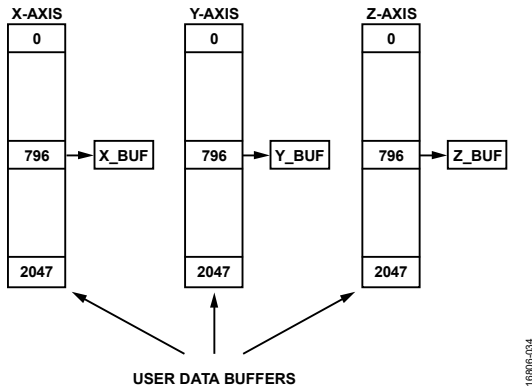

Figure 51. Register Activity, BUF_PNTR = 0x031C (MFFT Mode or AFFT Mode)
Writing a number to the BUF_PNTR register causes that sample number for each user data buffer (x, y, and z) to load to the X_BUF register, Y_BUF register, and Z_BUF/RSS_BUF register. For example, using the following code sequence on DIN writes 0x031C to the BUF_PNTR register: 0x8A1C and 0x8B03. This write causes sample pointer to x (796), y (796) and z (796) from each user data buffer to load to X_BUF, Y_BUF, and Z_BUF/RSS_BUF (see Figure 51).